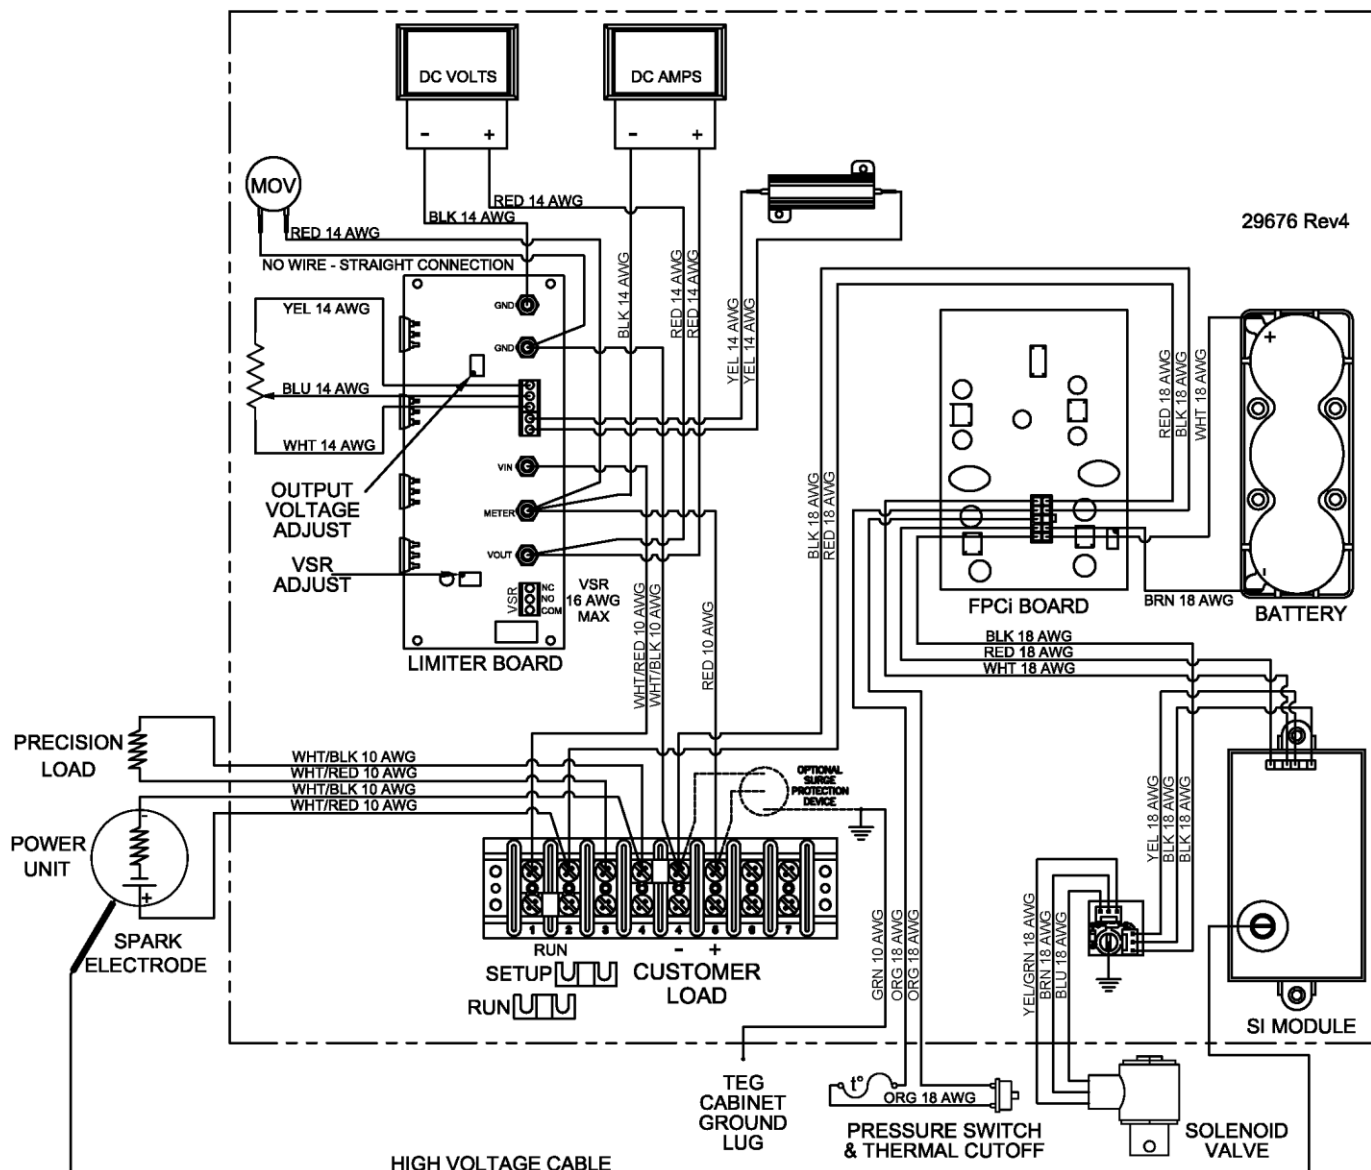
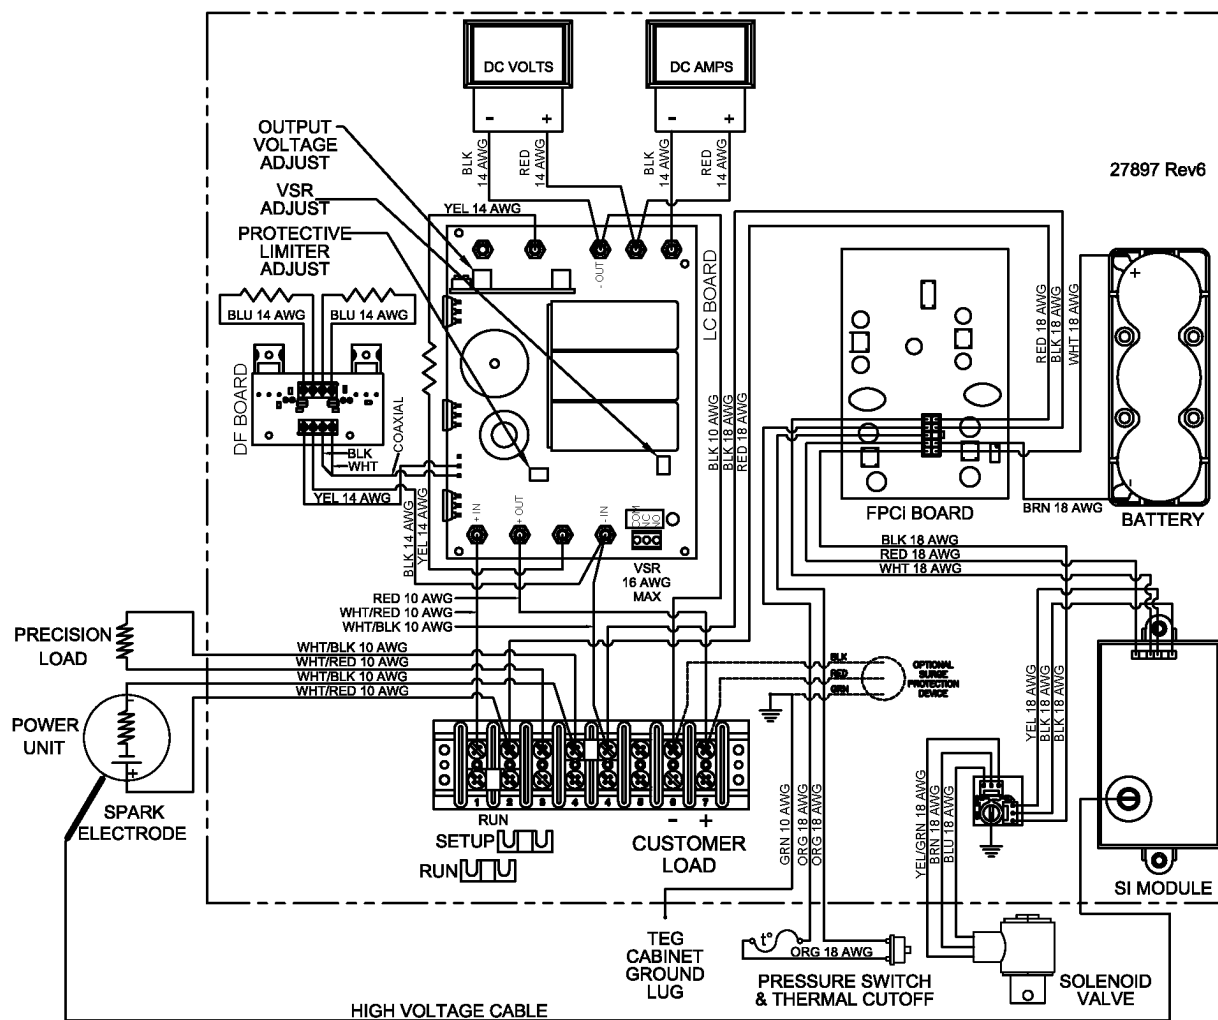

Figure 14 – Wiring Diagram 5220 TEG, with 12 V Limiter Assembly
Figure 15 – Wiring Diagram 5220 TEG, with 24V L/C Assembly
**12 V:** Connect the load at terminals 5 (+) and 4 (-) (Figure 14).
**24 V:** Connect the load at terminals 7 (+) and 6 (-) (Figure 15).
3. Connect the L/C wires to TB1 as per Figure 15.
1. Move the jumper on TB1 from the RUN position to the SETUP position, i.e. from between terminals 1 and 2 to between terminals 2 and 3 respectively. See Figure 14 or Figure 15.